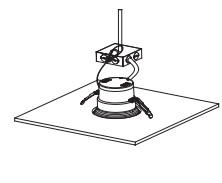

Fig. 10
- Step 5: Once lamp is inside the opening, release the housing clips and continue pushing lamp into opening until securely fixed and flush with ceiling (Fig.10).